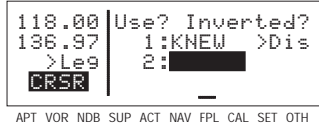

Figure 4-5
8. Press **ENT** again to approve the waypoint page being displayed. The cursor will move automatically to the second waypoint position (figure 4-5).